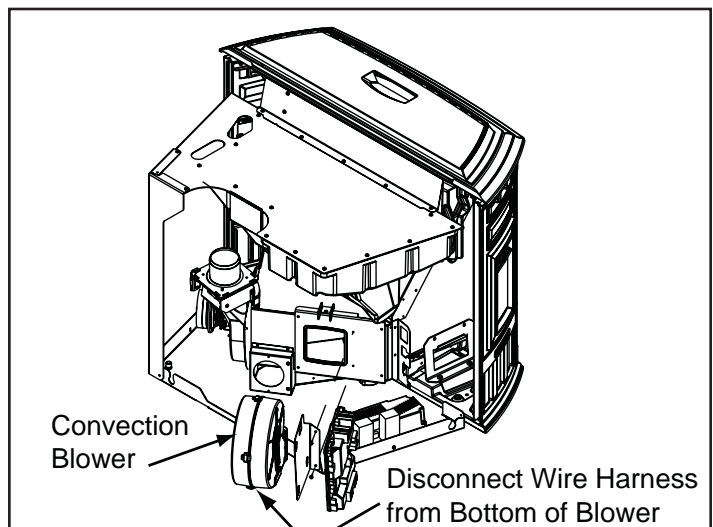

Figure 30.3
3. Disconnect the wire harness from the bottom of the blower by depressing the tabs on the sides of the connector and then pulling to remove. **Figure 30.3**.